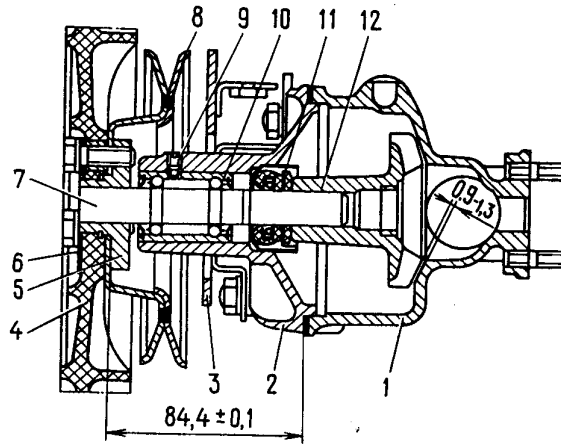

Fig. 2-62. Coolant Pump. Longitudinal Section:
- detach the pump body from cover 2 (Fig. 2-62);
- turn out lock screw 9 (Fig. 2-62) and take out the bearing with the pump shaft;